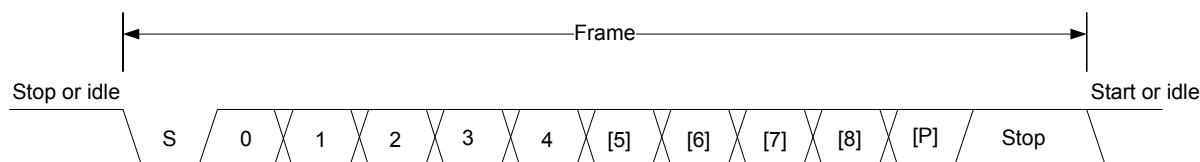

Figure 20.2. USART Asynchronous Frame Format
The frame format used in asynchronous mode consists of a set of data bits in addition to bits for synchronization and optionally a parity bit for error checking. A frame starts with one start-bit (S), where the line is driven low for one bit-period. This signals the start of a frame, and is used for synchronization. Following the start bit are 4 to 16 data bits and an optional parity bit. Finally, a number of stop-bits, where the line is driven high, end the frame. An example frame is shown in Figure 20.2 USART Asynchronous Frame Format on page 563.